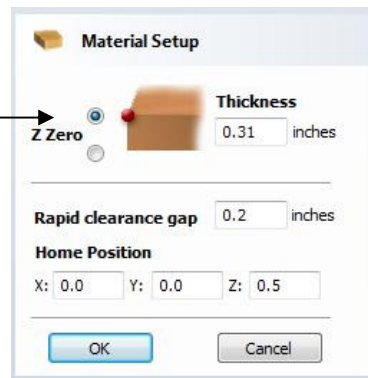

Figure 12. Material Setup
6. Select the **Material Setup** icon  from the **Toolpath Operations** list on the Toolpaths tab and specify the Rapid Clearance Gap to be **0.2"** and Home position to be **X0, Y0, Z2"** as shown below in Figure 12. (or a home position to suit your machine) Click **OK** to confirm.